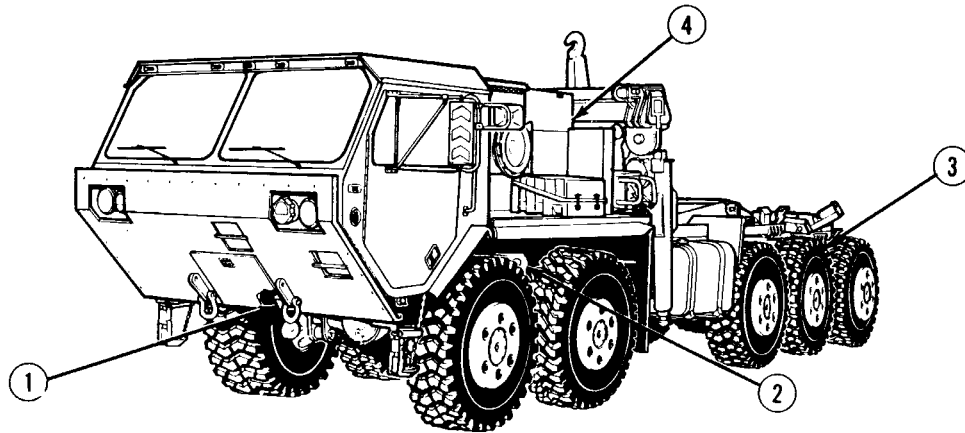

Figure 1-18. Steering System
Steering system (Figure 1-18) power is supplied to steering gears (1), (2) and (3) by an engine-driven pump. The steering fluid reservoir (4) is separate from the main hydraulic system. The steering wheel, which is mechanically linked to the steering gear, rotates a gear that positions a spool in the front steering gear (1). This motion is hydraulically transmitted to a piston in the intermediate steering gear (2) causing it to follow the pitman arm and transmit rotary motion to the rear steering gear (3). These pitman arms move the steering mechanism on the axles left or right causing the truck to steer left or right. An emergency backup hydraulic pump, driven by the transfer case middle shaft, supplies limited emergency steering.